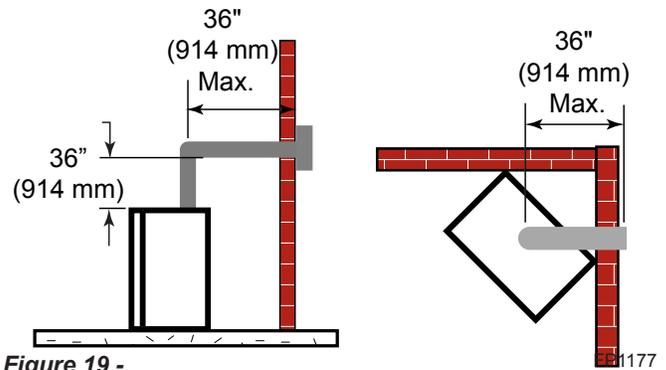

Figure 19 -
- A minimum of 36" (914 mm) is required before a 90° elbow. If a 90° elbow is fitted directly after 36" (914 mm) vertical section mounted to the top of the fireplace, the maximum horizontal vent run before the termination or a vertical rise is 36" (914 mm). *Figure 19*
7. Level the soil so as to maintain a 4" clearance below snorkel. *Figure 19*